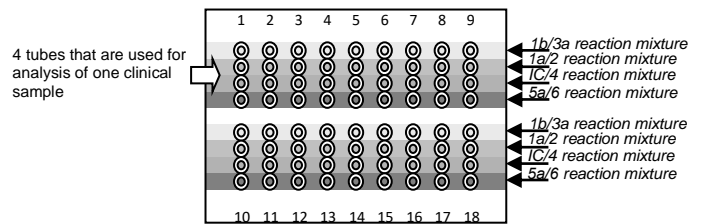

Figure 1 – Scheme of distribution of reaction mixtures and samples in case striped tubes are used.
5. Transfer 15 µl of the **prepared mixture** to the PCR tubes according to marking. Make sure that **PCR-mix-1-FRT HCV genotypes 1b/3a** is added to the tubes labeled as "sample no. **_1b/3a**" and so on. If striped tubes are used, the reaction mixtures should be transferred to the tubes in accordance with the order indicated on Fig. 1.